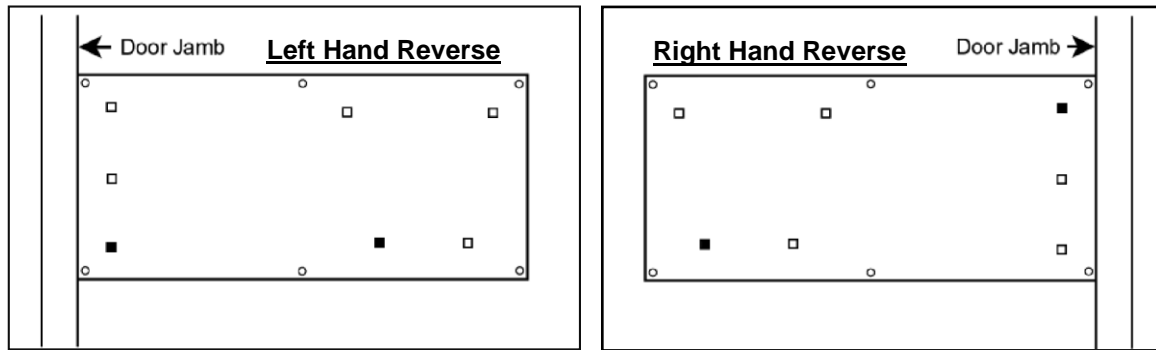

FIGURE 3
5. Using the square holes in the inside mounting plate as guides, drill five (5) holes into the door (See Figure 3):